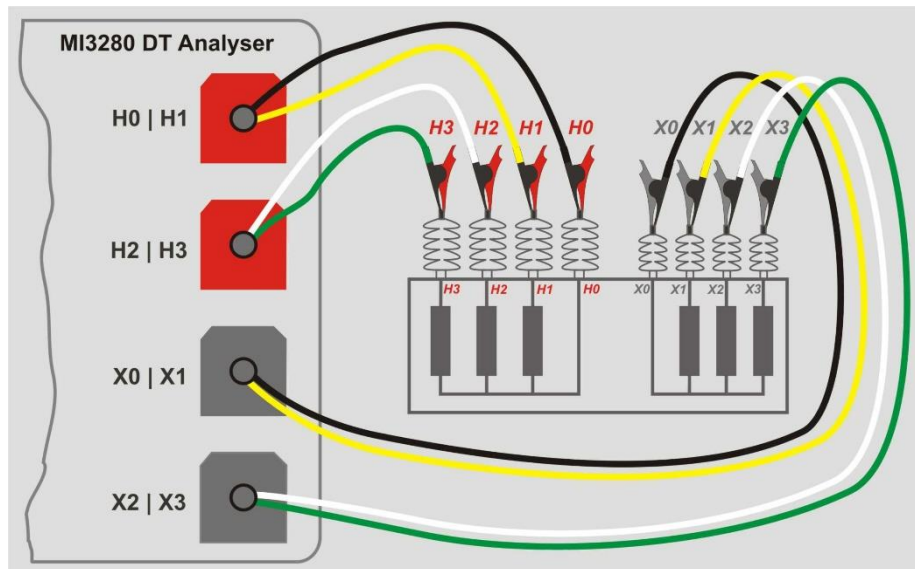

Figure 11.22: Winding resistance measurement of three-phase transformer
To measure three-phase voltage/power transformer you need to connect **H1|H0** connector (red terminal: black and yellow wires), **H2|H3** connector (red terminal: green and white wires), **X1|X0** connector (grey terminal: black and yellow wires) and **X2|X3** connector (grey terminal: green and white wires) to appropriate MI 3280 DT analyser socket like shown in *Figure 11.22*.
- Connect three-phase transformer like shown in *Figure 11.22*.